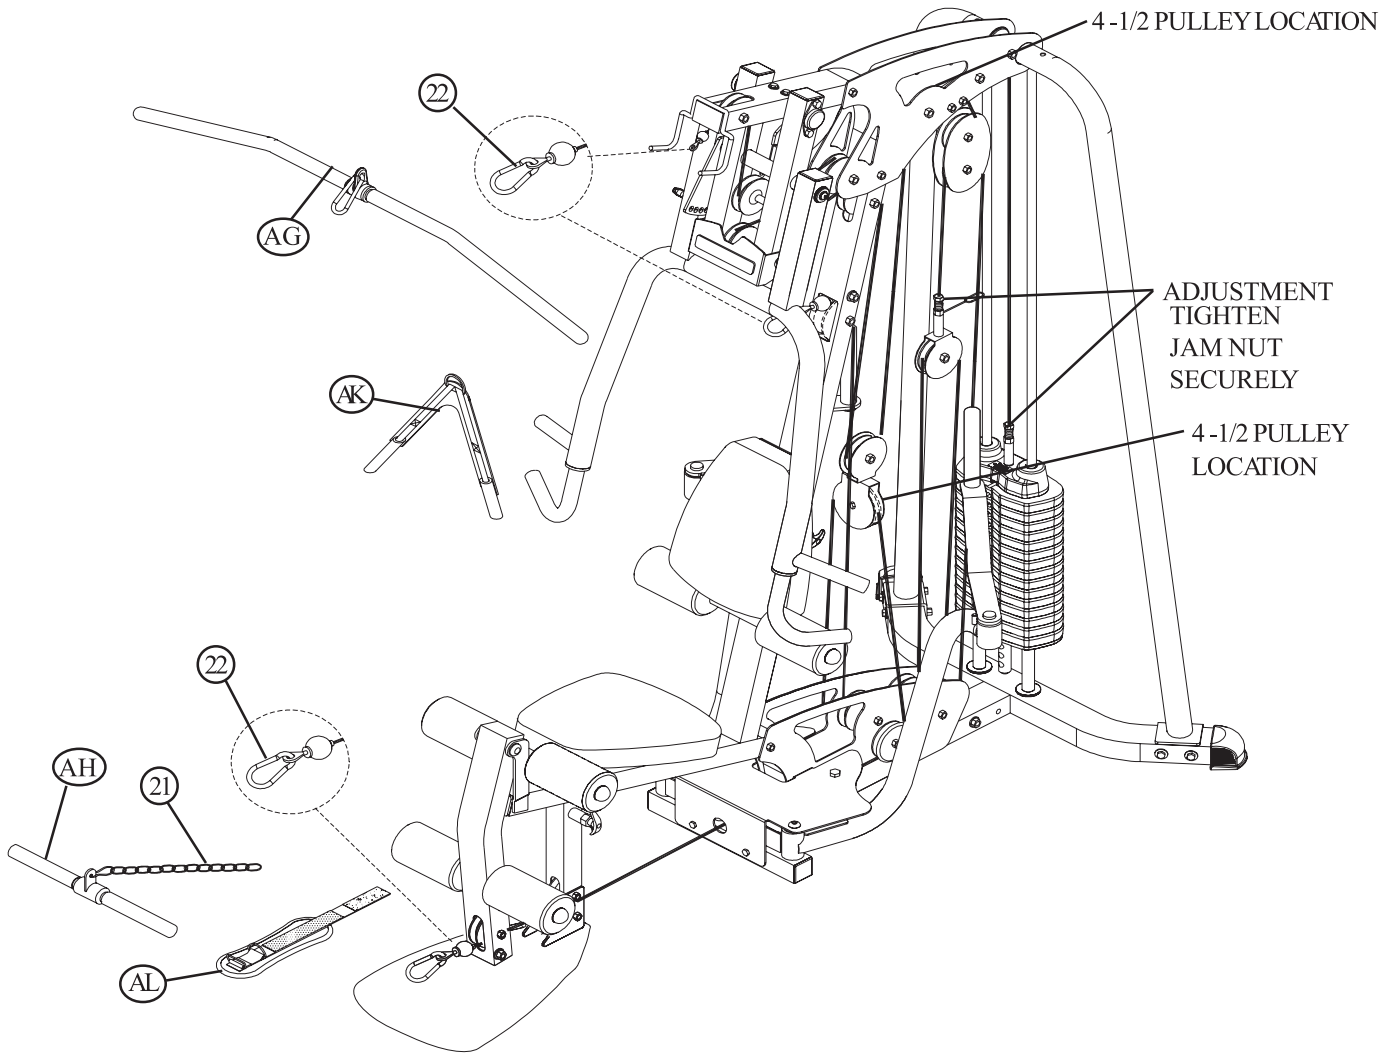

**FIGURE 22**
- Assemble one 3-1/2" PULLEY (35) to the FOOT PLATE (L) using one 3/8 X 3" BLACK BOLT (8), two STEP SPACERS 11/16" (27) and one 3/8" BLACK LOCK NUT (40). See FIGURE 22.
- Route the small ball end of the LOW CABLE (AN) around one 3-1/2" PULLEY (35) and assemble the PULLEY to the LEG PEDESTAL (K) using one 3/8 X 3-3/4" BOLT (6), two 1-1/16" STEP SPACERS (26) and one 3/8" SILVER LOCK NUT (19) as shown in FIGURE 22. **(NOTE: The LOW CABLE (AN) should be routed over the retaining bolt as shown in FIGURE 22.)**